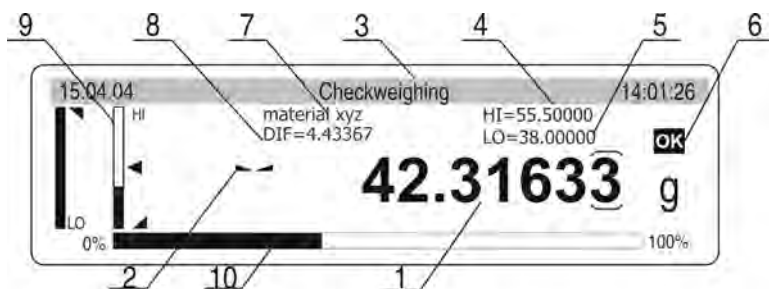

Fig. 40. Checkweighing – display content
- 3 – REF – reference mass (see Fig. 40 – M4 01)